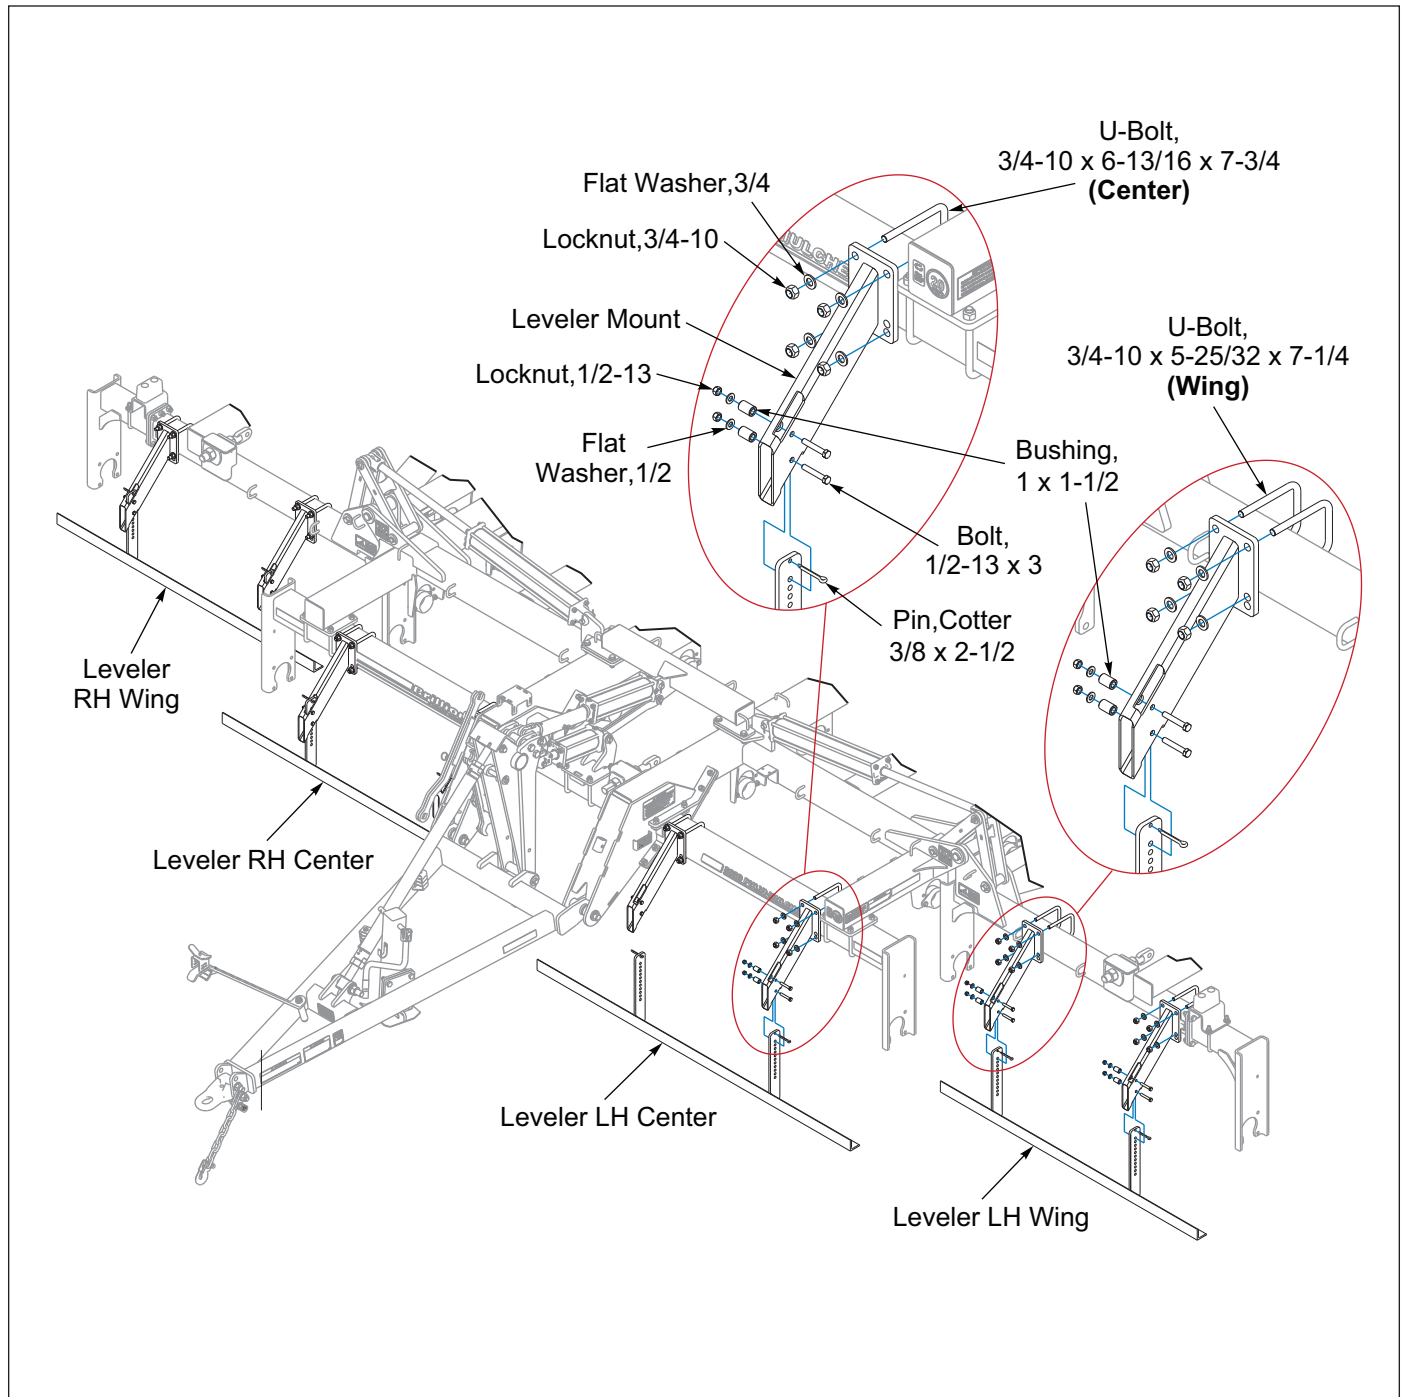

Figure 2-79: Land Leveler Installation - Optional
1. Attach the Leveler Mounts to the Center Frame Front Roller Frame Tube using 3/4-10 x 6-13/16 x 7-3/4 U-Bolts and to the Front Wing Frame Tube using 3/4-10 x 5-25/32 x 7-1/4 U-Bolts. Secure with Flat Washers and Locknuts. **See Figures 2-79, 2-80 and 2-81.**